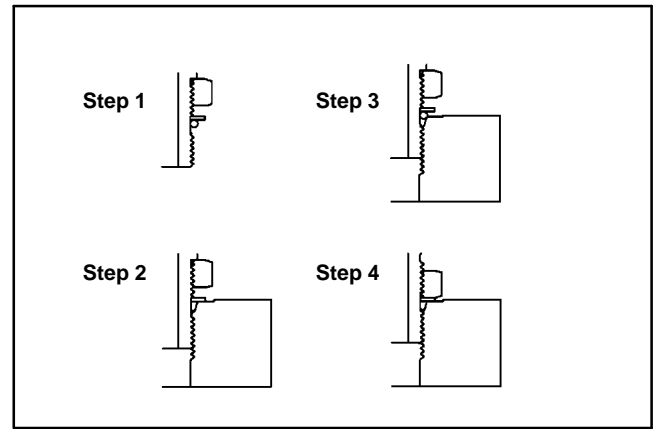

Figure 7
4. Turn back the lock nut as far as possible. Make sure the back up washer is not loose and is pushed up as far as possible (Step 1 Fig. 7).